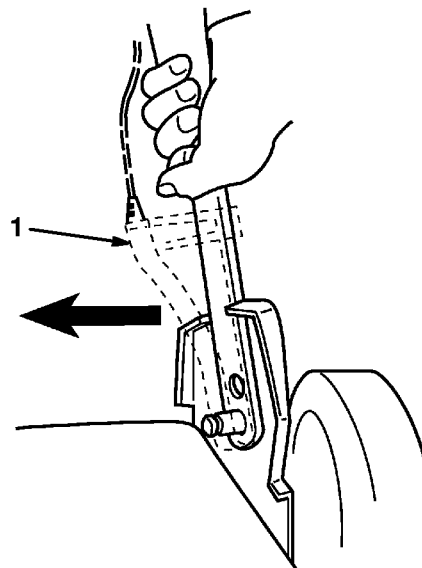

Figure 14
1. When adjusting height-of-cut, slide cable anchor on handle to align hole in cable anchor with desired hole in handle. Locate holes over pin inside handle bracket (Fig. 14).